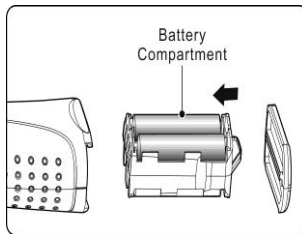

Fig. 5
- ✓ To remove the batteries, hold handheld display unit to remove battery compartment and then remove batteries. (**Fig. 5**)
- ✓ To install the batteries, remove the battery compartment and insert four(4) new AA batteries into the proper slots in the battery compartment.